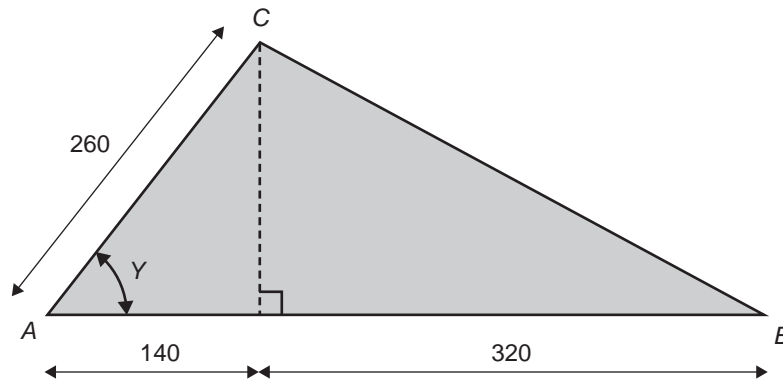

Figure 16
Figure 16 shows a triangle, ABC , that is to be made into a plastic end cover for a guard.
- a. Calculate the angle Y of the end cover shown in Figure 16. Show your working. 2 marks